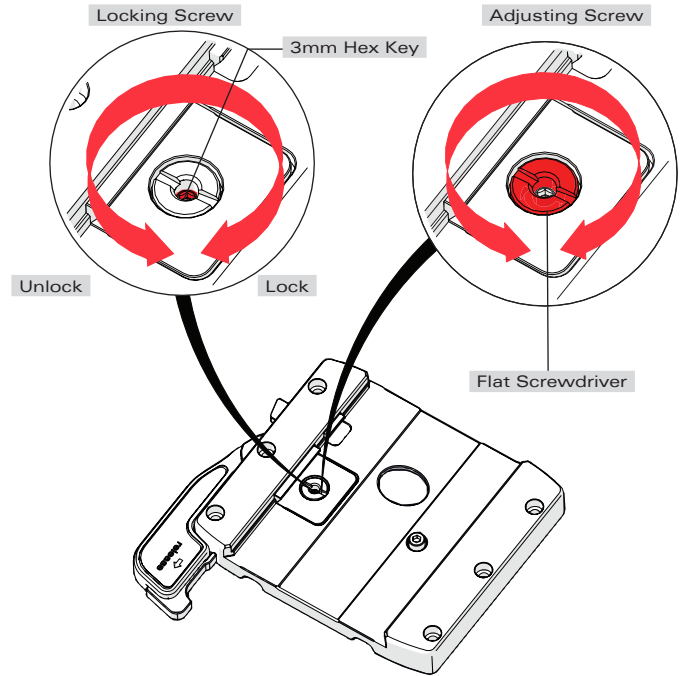
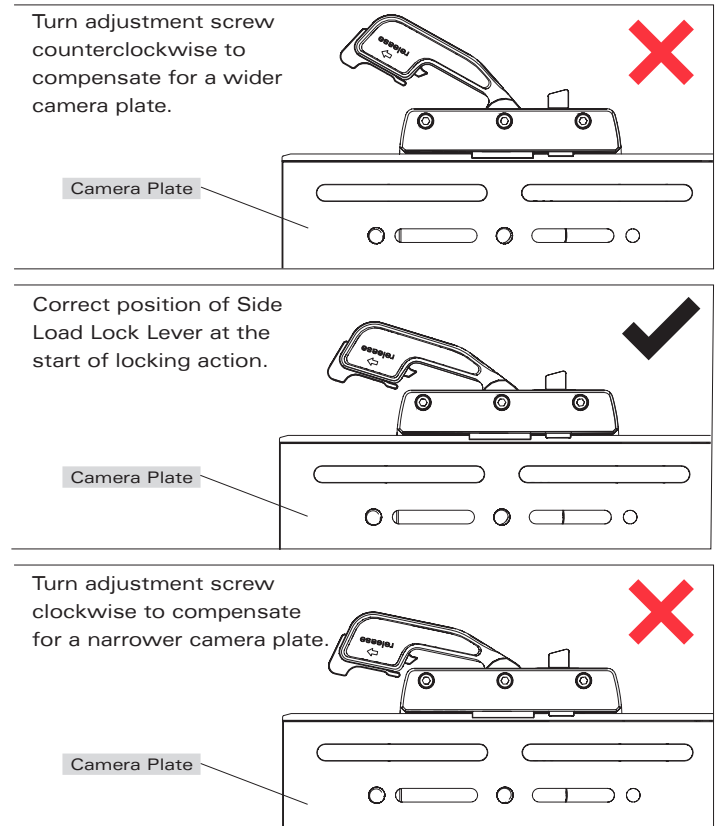

Fig. 8
Fig. 9
- 4.2 With the CAMERA PLATE in place, gently push the SIDE LOAD LOCK LEVER towards the BASE PLATE until resistance is felt – this is the start of the locking action. Check the position of the SIDE LOAD LOCK LEVER as shown in figure 9.
- 4.3 Adjustment is necessary if the SIDE LOAD LOCK LEVER position is outside the recommended range. Follow figure 9 to determine the correct method of adjustment.
- 4.4 Using a 3 mm Hex key unlock the LOCK SCREW (fig. 8), then using a broad flat screw driver turn the ADJUSTING SCREW (fig. 8) in the direction shown by 1/8 of a turn and re-check step 4.2, repeat 4.4 if necessary. When adjusted correctly, the SIDE LOAD LOCK LEVER will be smooth to operate and require modest effort to lock the CAMERA PLATE (fig. 9).